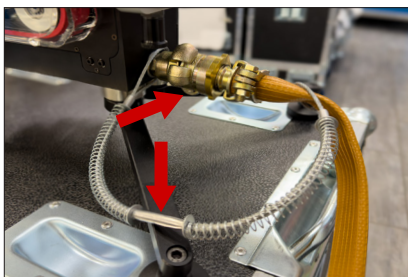

Fig. 1
2. The air hose fitting shall be secured using the designated fastening system, ensuring that the safety screw is completely tightened. The use of the safety retention cable between the compressed air hose and the machine is **mandatory** (Fig.1).